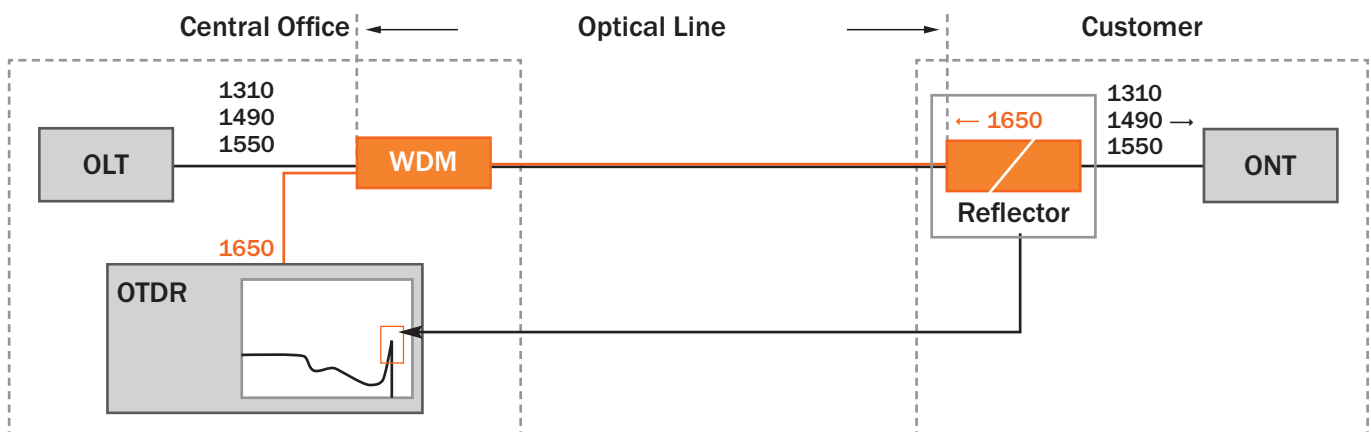
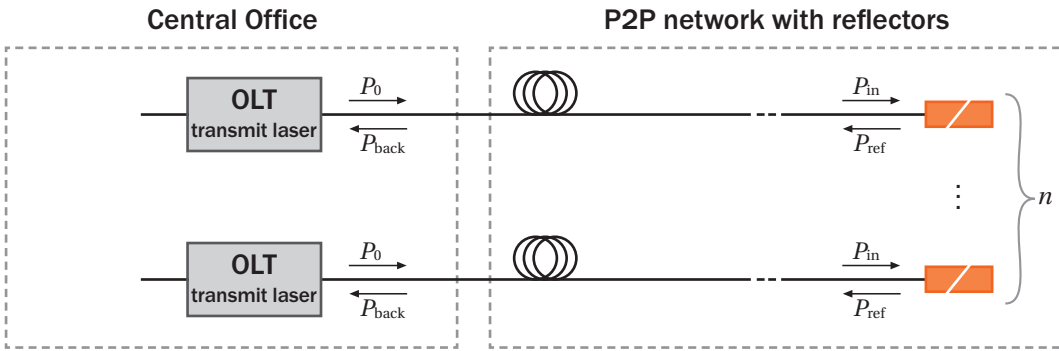

Figure 1 Monitoring principle using reflectors
Figure 3 Worst-case assessment of return loss for a P2P topology
Figure 3 shows the situation of a P2P network with n subscribers, where P_0 is the transmit laser output power in the CO, and P_{back} the power reflected back to the laser. Since only the traffic wavelengths shall be assessed here, the OTDR and the WDM have been removed from the drawing (cf. Figure 1).
For an *assumed link loss of 0dB* in this case the whole amount of the reflector's return loss will act on the transmit laser. With the back reflection P_{back} acting on the transmit laser the return loss of the P2P network relevant to the laser (see Figure 3 with equation (1) equals):